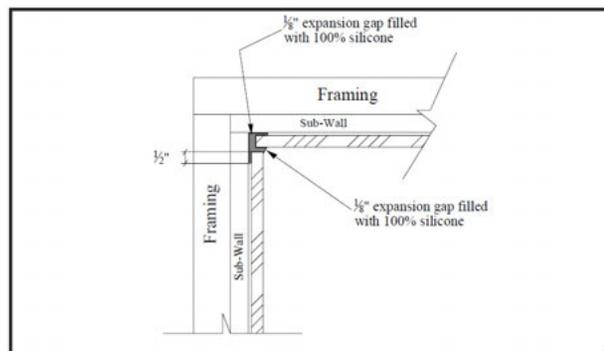

Figure 27A
- All inside corners (Figure 27A)